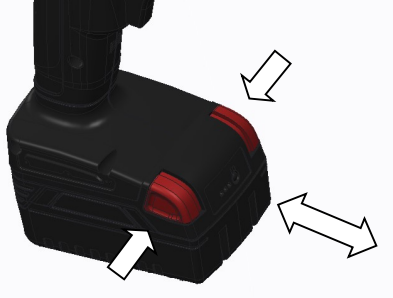

Figure 2
1. Remove and Install Battery Pack (See Figure 2):